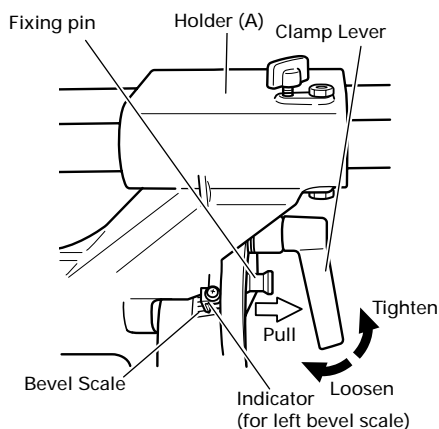

Fig. 29
- (1) Loosen the clamp lever and bevel the saw blade to the left or to the right. When tilting the motor head to the right pull the fixing pin towards the rear. The clamp lever adopts a latching system. When contacting the work bench and the main body, pull the clamp lever in the direction of the arrow mark as illustrated in Fig. 29, and change the direction of the clamp lever.
- (2) Adjust the bevel angle to the desired setting while watching the bevel angle scale and indicator, then secure the clamp lever.
- (3) Follow the procedures indicated in paragraphs 4,5 and 6 above. For maximum dimensions for bevel cutting, refer to "SPECIFICATIONS" table on page 9.